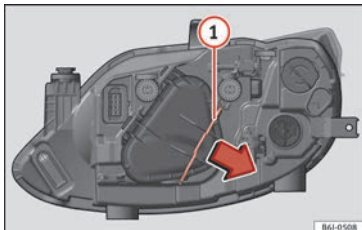

Fig. 94 Single headlight.
- Move the loop » Fig. 94 ① in the direction of the arrow and remove the cover.